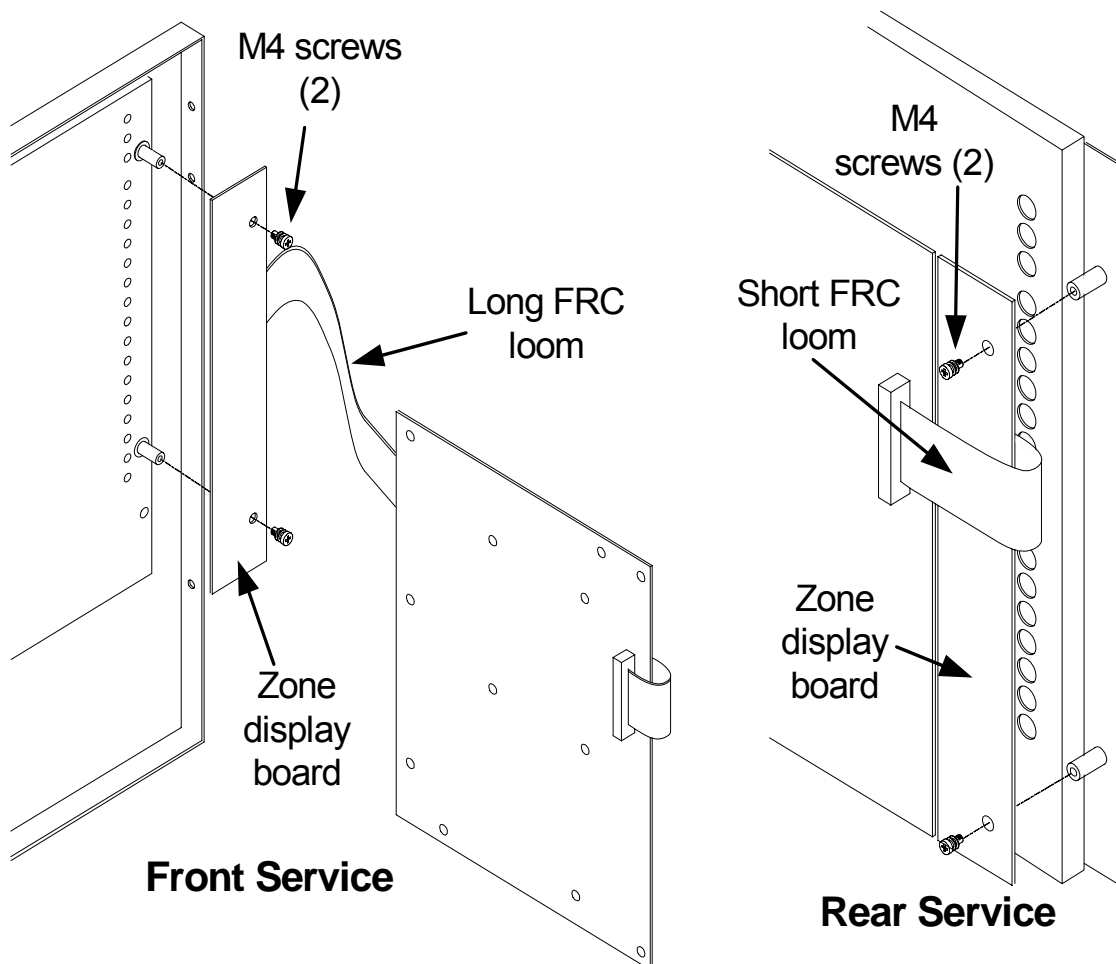

Figure 4 – Zone Display Mounting
6. Fit Zone LED display to gearplate barrel nuts (rear service) or index barrel nuts (front service). (See Figure 4).
5. Fit Zone LED display to gearplate barrel nuts (rear service) or index barrel nuts (front service). (See Figure 4).
3. Fit Zone LED display to gearplate barrel nuts (rear service) or index barrel nuts (front service). (See Figure 4).